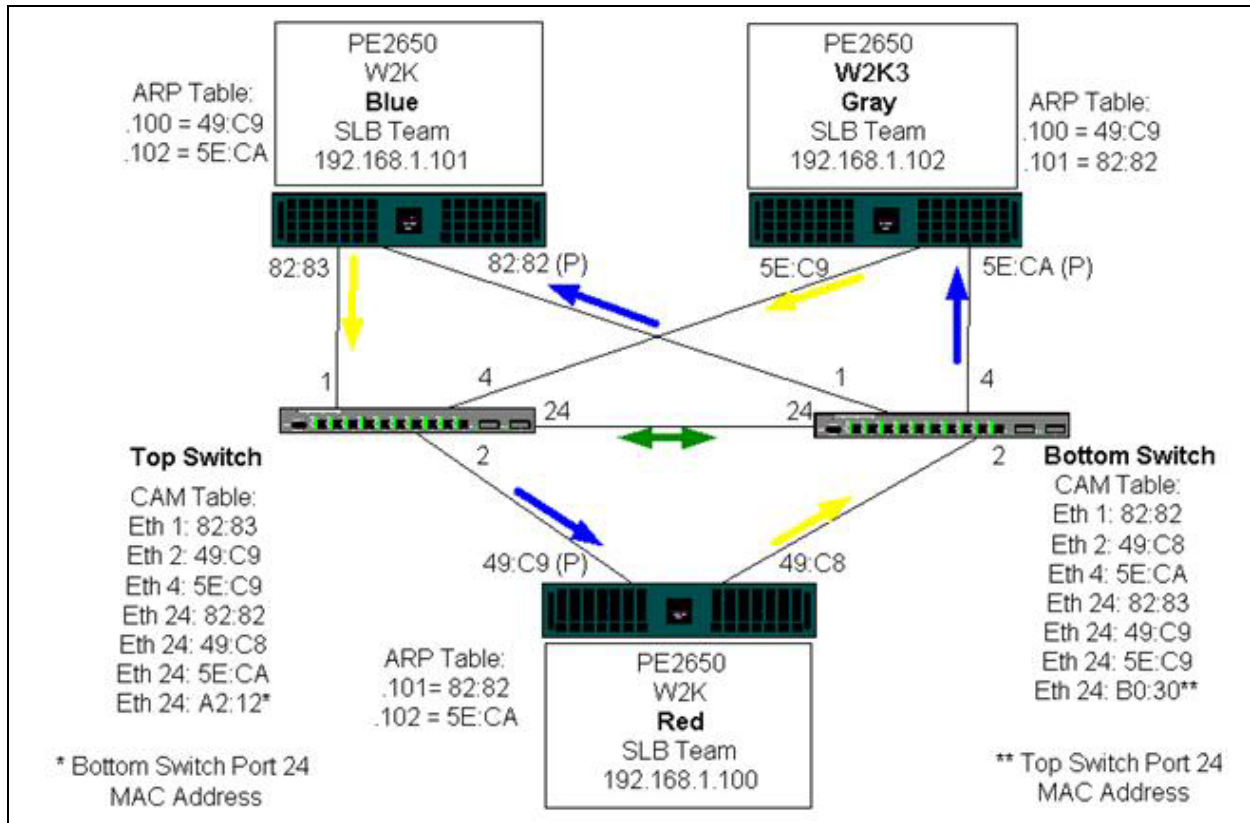

Figure 12-4. Teaming Across Switches with Interconnect
- Figure 12-4 has the interconnect cable in place.